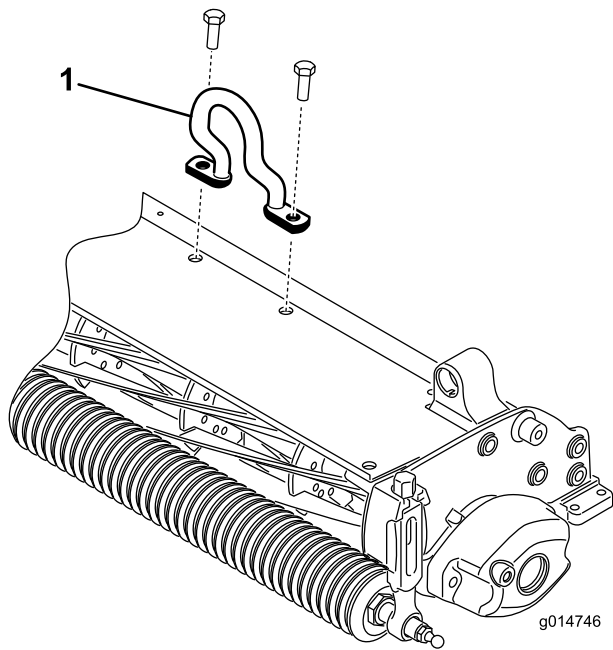

Figure 4
Install the offset link (Figure 4) to the top of the cutting unit with (2) capscrews. Torque the capscrews to 25-30 ft-lbs. (34-40 N-m). The offset lift hook should be positioned with the hook forward.